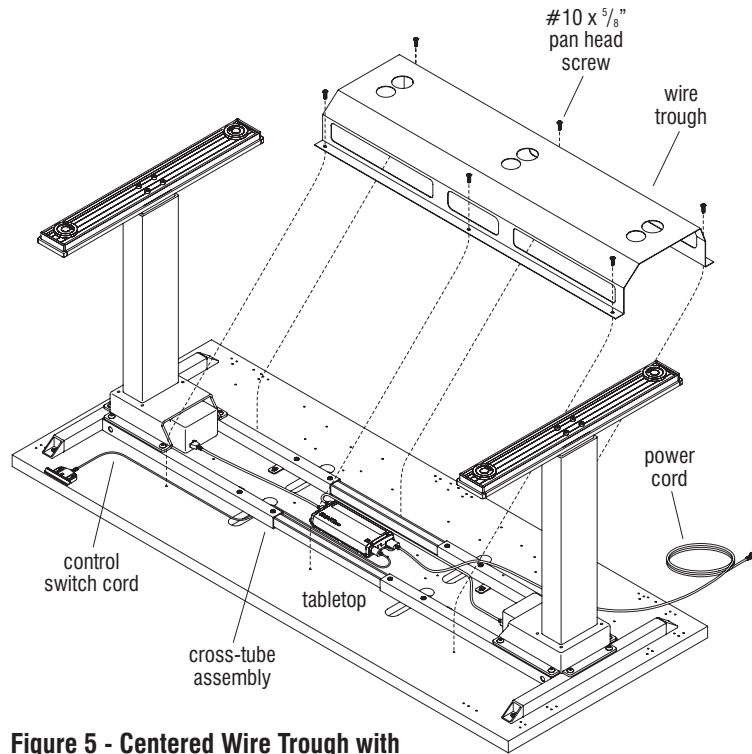
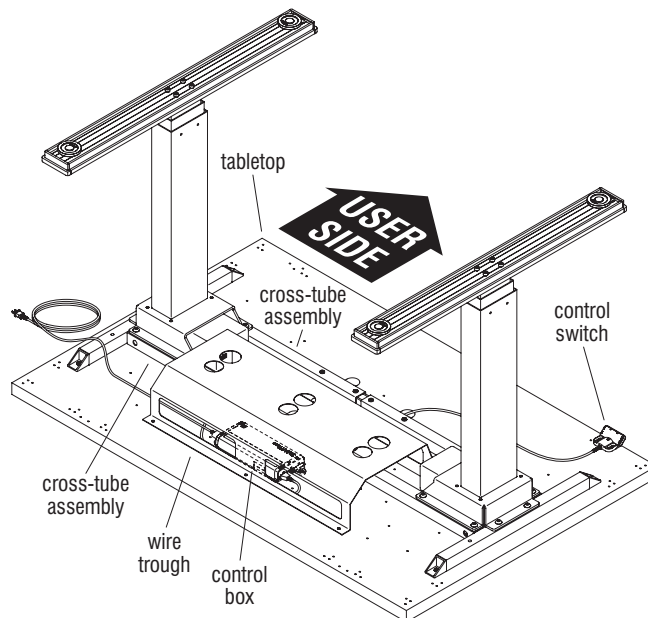

Figure 5 - Centered Wire Trough with Control Box Between Cross-Tube Assembly
Figure 6 - Behind Cross-Tube Assembly Wire Trough, 30" or 36" Table Depth
Note: To prevent interference, Universal Height-Adjustable screens cannot be used on 30" deep Toggle Tables when the control box is mounted to one of the three mounting locations behind the cross-tube assemblies as shown on page 4, Figure 6.
Note: Control cables can be routed differently than shown. The control box can be mounted to the underside of tabletops 24" in depth between the cross-tube assembly (Figure 5). Control boxes mounting under tabletops 30" or 36" in depth can mount in one of three mounting locations. If the control box is mounted between the cross-tube assembly, reference Figure 5 for placement of the wire trough. If the control box is mounted behind the cross-tube assembly, reference Figure 6.
1. Align the wire trough mounting holes to the appropriate mounting holes in the tabletop, making sure the larger cutouts on the trough are facing the user side of the table. Using six #10 x 5/8" pan head screws, secure the wire trough to the tabletop as illustrated (Figures 5 & 6).